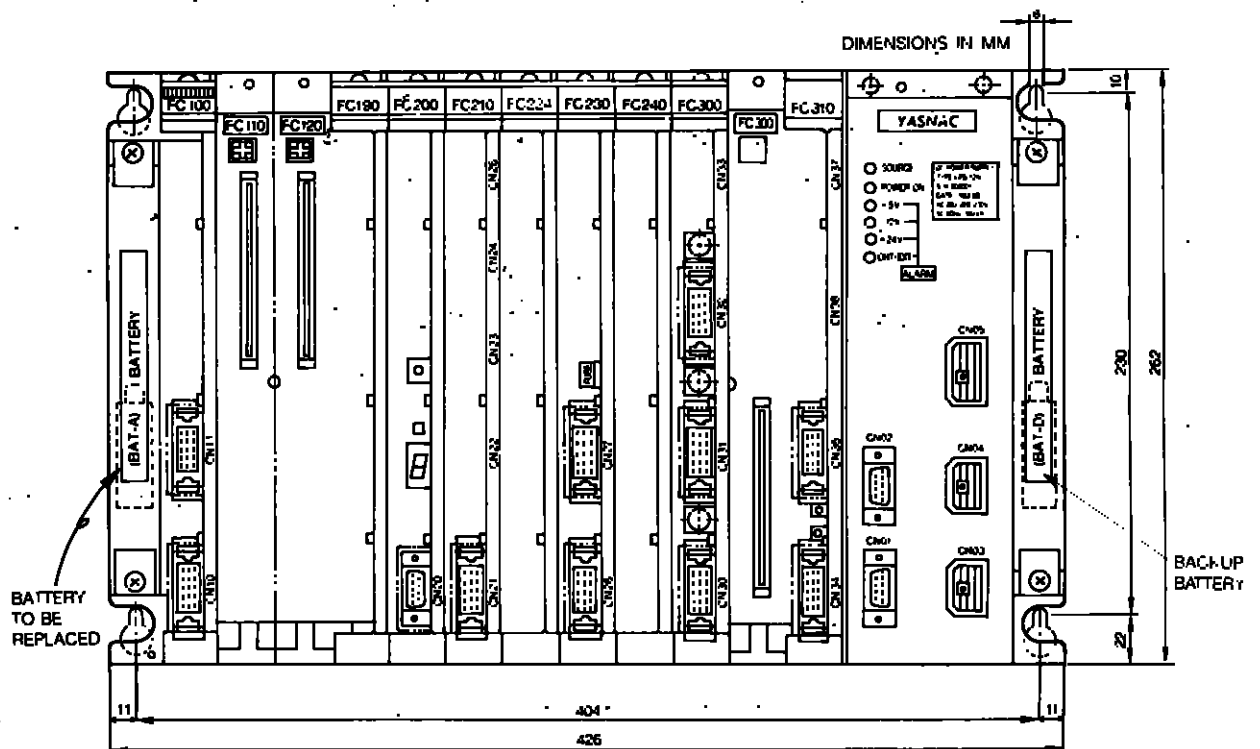

Fig. 4.2.1 Arrangement of LED and Battery
- (3) Open the front door sufficiently so the NC unit board mounted on the inside of the door is visible.
- (4) Switch on the power.
- (5) Confirm that the LED (red) of the FC200 module lights. If this LED is lit, it indicates that the battery "ER6V3" must be replaced. The layout of the LED and the battery is shown in Fig. 4.2.1.